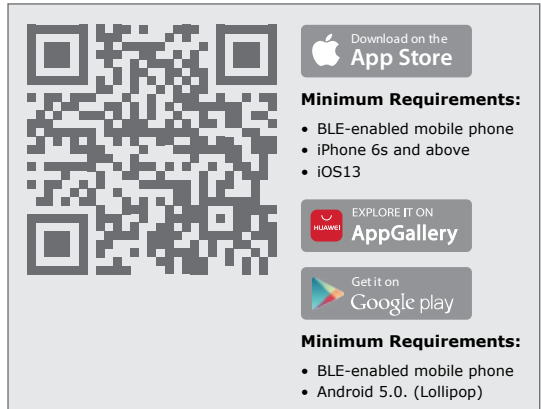

FIGURE 77
1. Scan the QR Code in Figure 77.